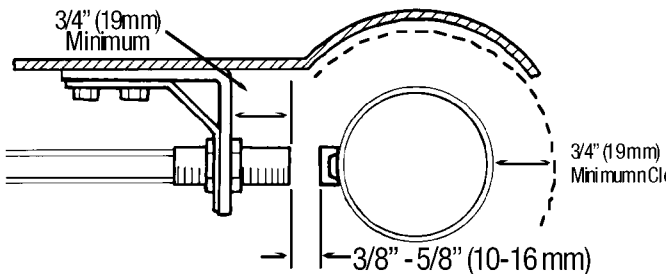
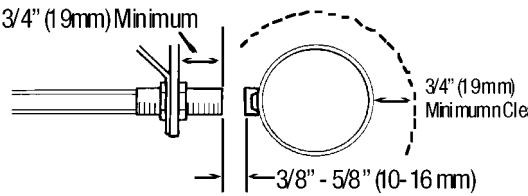

Figure 11: Determining Proper Clearances and Gap (Rear Wheel Drive)
Figure 15: Determining Proper Clearances and Gap (Front Wheel Drive)
The sensor installation requires mounting a magnet on the drive shaft of a rear wheel drive vehicle or on the in-board CV joint hub of a front wheel drive vehicle. The reed switch sensor (25) is mounted on a bracket opposite to the magnet rotating on the drive shaft or in-board CV joint hub. The sensor detects the magnet as it passes. The gap between the magnet mount and sensor must be $\frac{3}{8}$ " - $\frac{5}{8}$ " (10-16mm) (Figure 11 and Figure 15). There should be a clearance zone of at least $\frac{3}{4}$ " (19mm) above the drive shaft or in-board CV joint hub where the magnet is mounted (Figure 11 and Figure 15).
The instructions below describe an optimal sensor bracket assembly. Due to the variations in individual cars, you will need to adapt these instructions to fit the sensor bracket into whatever situation exists. As you do so, it is vital to insure that **THE SENSOR END PROTRUDES 3/4" (19mm) FROM THE SENSOR MOUNTING BRACKET**. See Figure 11 on page 10 or Figure 15 on page 12. In addition, the brackets must not protrude below other parts on the vehicle underbody.